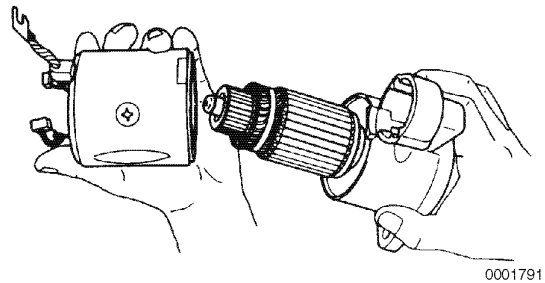

Figure 10-9
12. Pull off the field assembly from the armature assembly (**Figure 10-9**).